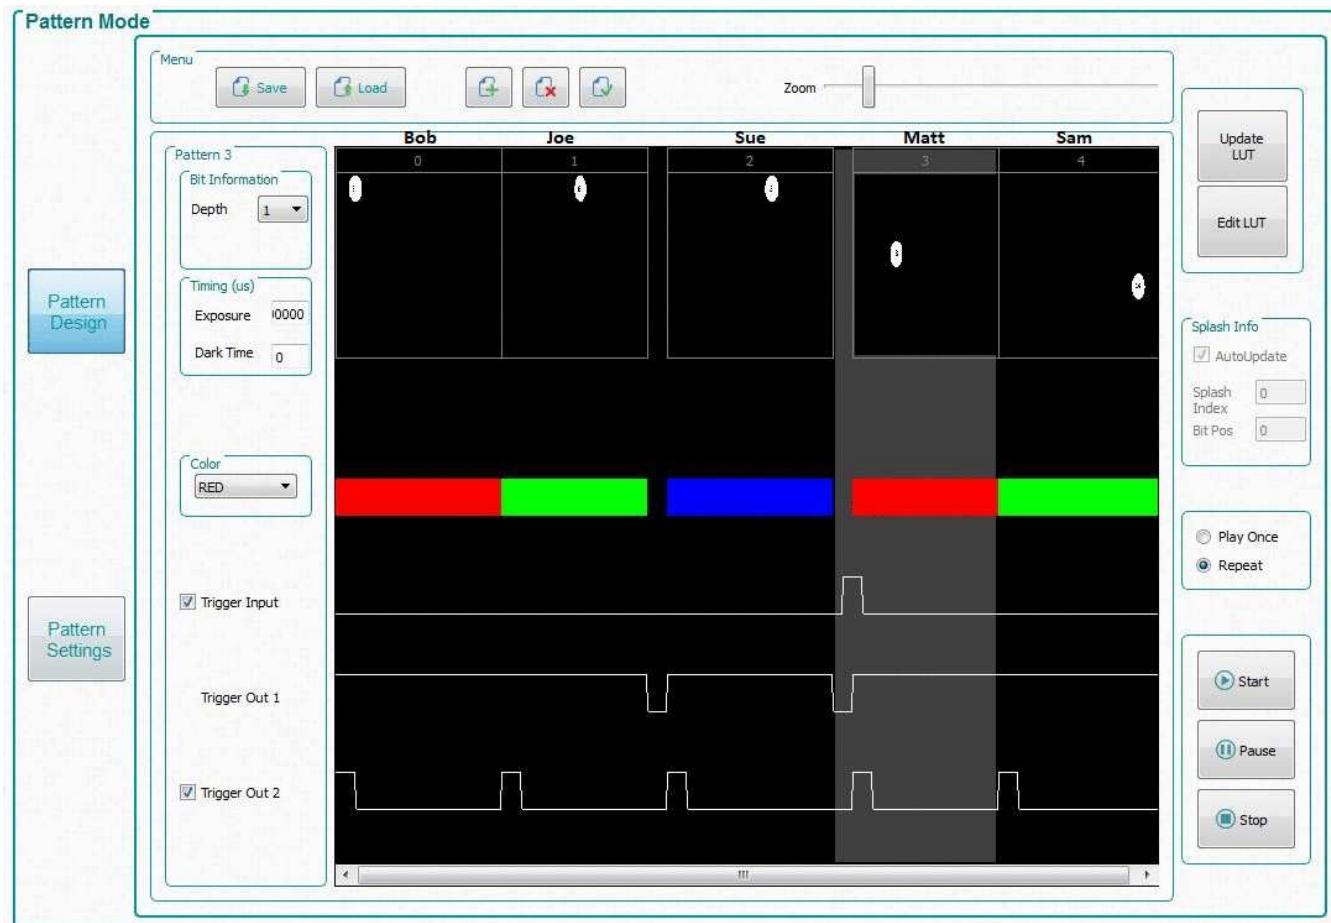
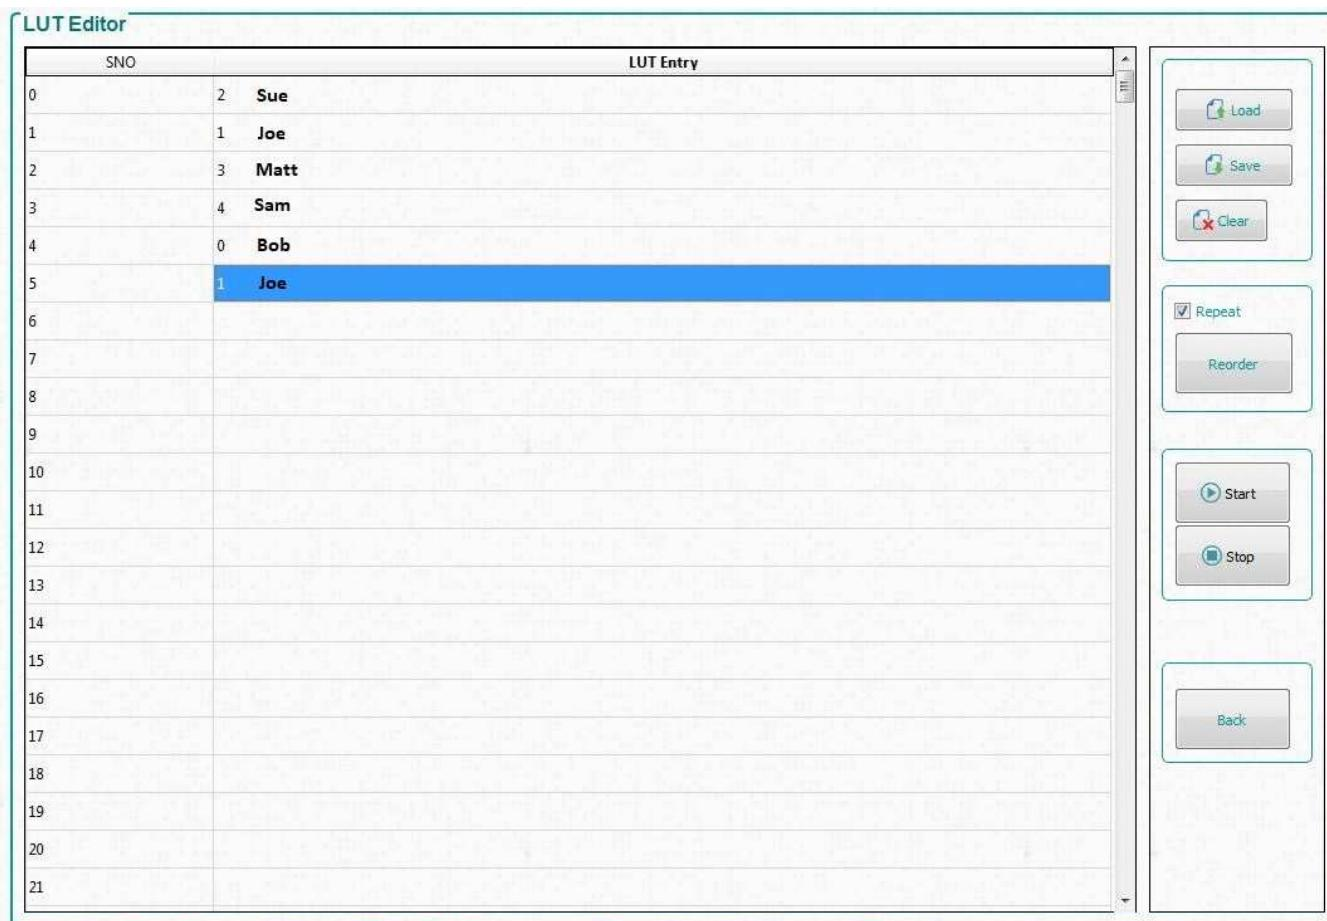

Figure 3-9. Pattern Design Example
Figure 3-10. LUT Editor Panel
The *LUT Editor* panel is shown in Figure 3-10 where the column labeled “SNO” (i.e. Sequence Number) represents the pattern display slot numbers according to the order set (after clicking *Update LUT*) in the *Pattern Design* tab as shown in Figure 3-9. The user can then reorder those patterns by either manually entering the pattern number of their choice into a row in the “LUT entry” column or loading a text file beginning with the word “Reorder” followed by the desired numerical pattern slots as shown in Figure 3-11.
1. By following the steps similar to Section 3.6.2, load five patterns in *Pattern On-The-Fly-Mode* as shown in Figure 3-9.
7. Click the *Edit LUT* button to open the *LUT Editor* panel as shown in Figure 3-10. This panel will initially open with an empty "LUT Entry" column.
8. To reorder the patterns, enter a "2" in "LUT Entry" row 1, and subsequently a "1", "3", "4", "0", and "1" as shown in Figure 3-10.
NOTE: NOTE: When using the GUI interface, each pattern carries several items of information corresponding to the slot that it was inserted in the original LUT order. Therefore, when reordering a pattern to a different slot in the LUT, it will retain its original assigned bit information, timing (exposure and dark time), LED color, and trigger information and NOT the information that is located in its reassigned slot in the LUT. For example, if pattern 3 contains a trigger input to begin the user's execution in Figure 3-9 and is reordered to slot 2 as shown in Figure 3-10, the trigger input is now located at slot 3 in the LUT rather than slot 0. In *Pre-Stored Pattern Mode*, reordering the LUT will not change the pattern locations as it does in *Pattern On-The-Fly Mode*. Only the requested bit information, timing, color, and trigger information will be reordered based on the user's updated LUT. However, it is possible to manipulate the pattern information after reordering the sequence by manually editing the batch file commands uploaded to the EVM rather than using the GUI.
It may be helpful to understand the *Edit LUT* feature by giving names to the patterns, as shown above the patterns in Figure 3-9, and treating them as the batting order in a baseball game.. This way, it is easier to picture the distinction between the slot order numbers in the "SNO" column (the new batting order) and the patterns that are inserted into the "LUT Entry" column (the batters).
For example, Bob, retains his batting statistics independent of his batting position (i.e. bit information, timing, color, trigger), so if he is originally bats first (slot 0 in Figure 3-9) but is moved to fifth in the new batting order (reorder LUT entry 4 in Figure 3-10) he retains all of his properties. The only difference is that now he does not bat (i.e. is not displayed) until after the four batters (patterns) preceding him (Sue, Joe, Matt, and Sam). Notice also that in our example Joe bats twice in the new batting order (SNO 2 and 5). There is only one Joe, who bats twice in the new batting order.
In the same way, a pattern in the original pattern list can be displayed in many positions in the reordered display LUT, without adding or removing any patterns in DLPC900 memory. Therefore in terms of the system memory, it is only changed when using the *Update LUT* feature but never when using the *Edit LUT* (Reorder) feature in the Figure 3-9.